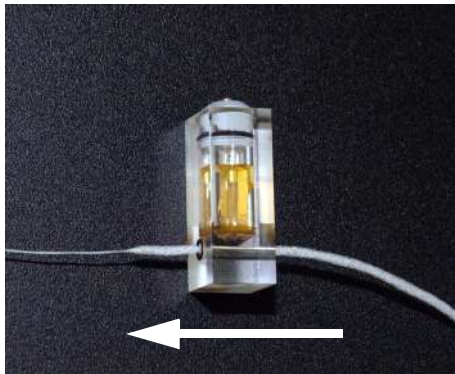

Fig. 9-5: Chloride electrode cleaning
- ◆ Pull one thread one time slowly and carefully through the sample channel of the electrode in the direction of the arrow (see Fig. 9-5: Chloride electrode cleaning, page 9-8).